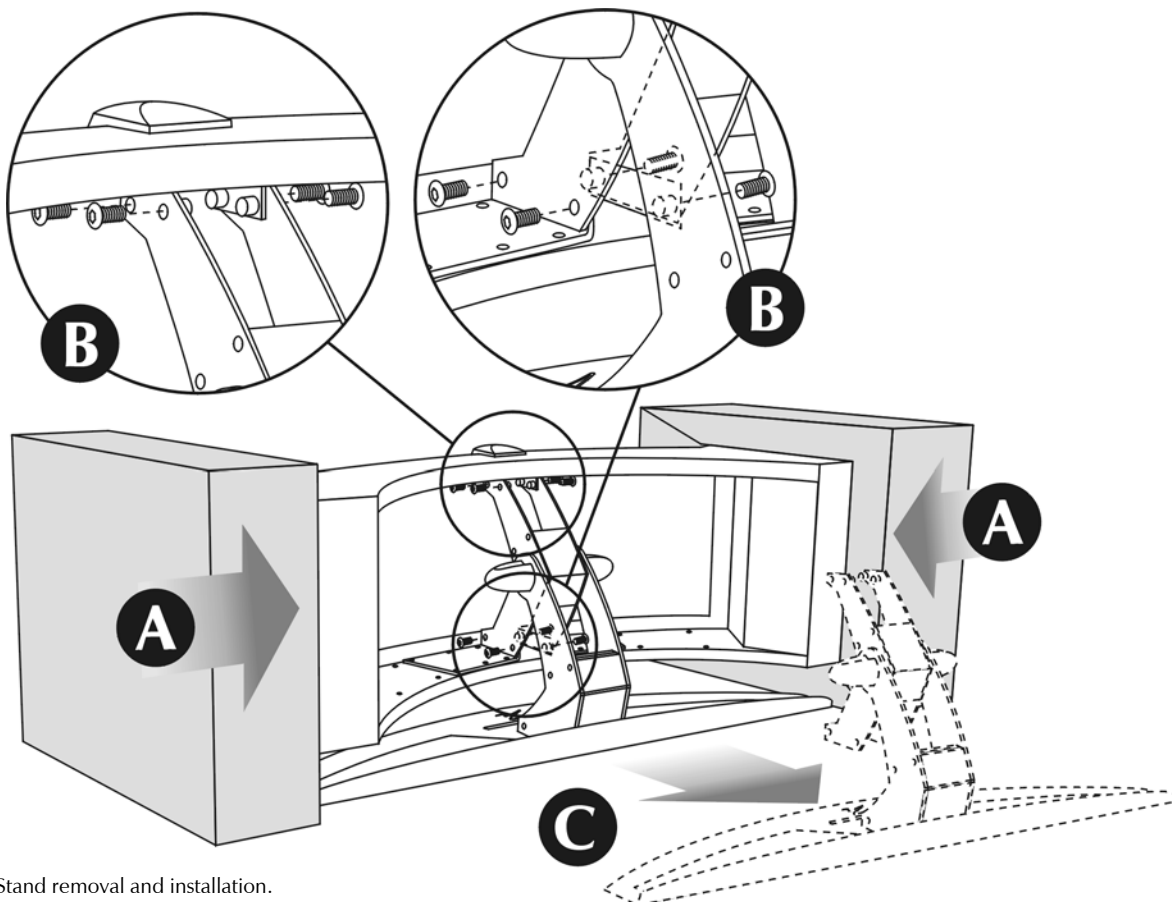

Figure 4. Stand removal and installation.
1. Support the Theater body by placing the shipping foam on both ends of the speaker, or setting a stack of books beneath both ends of the speaker cabinet. The mount should hang down from the Theater and contact the surface of your table or floor (see figure 4, step A).
2. Before beginning to remove the mount screws, please note that the mount is held in place with 8 screws connected to 4 brackets. These 4 brackets are attached to the Theater cabinet. *Do not remove these brackets from the Theater cabinet.* To detach the mount, remove 2 screws from each of the 4 brackets (see figure 4, step B).
3. To remove the stand, simply pull it back, away from the Theater cabinet (see figure 4, step C).
1. Support the Theater body by placing the shipping foam on both ends of the speaker, or setting a stack of books beneath both ends of the speaker cabinet. The speaker cabinet should be raised high enough that when the stand is moved into place, it can rest on the surface of the table or floor (see figure 4, step A).
1. Carefully slide the stand into place so that it aligns with the 4 brackets already attached to the Theater cabinet (see figure 4, step C).
3. Insert and tighten 2 screws into each of the 4 brackets (see figure 4, step B).